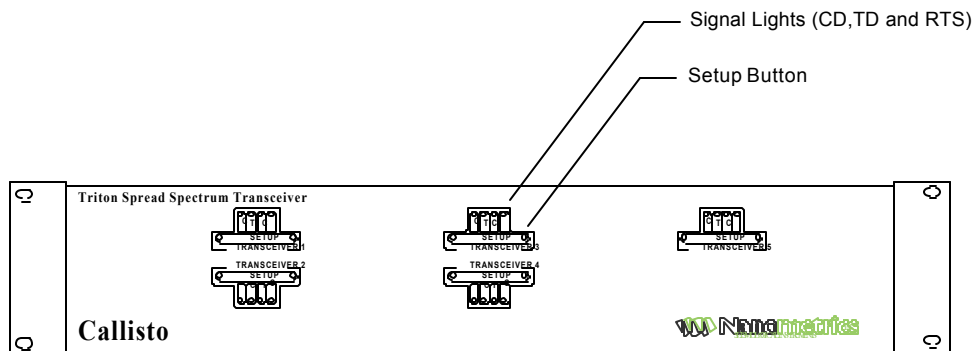

Figure 2: Triton (SS) front plate
2. Press the setup button on the front plate of the Triton box, see *Figure 2*. The transceiver main menu should appear on the screen. Navigate through the submenus and edit the configuration if necessary.